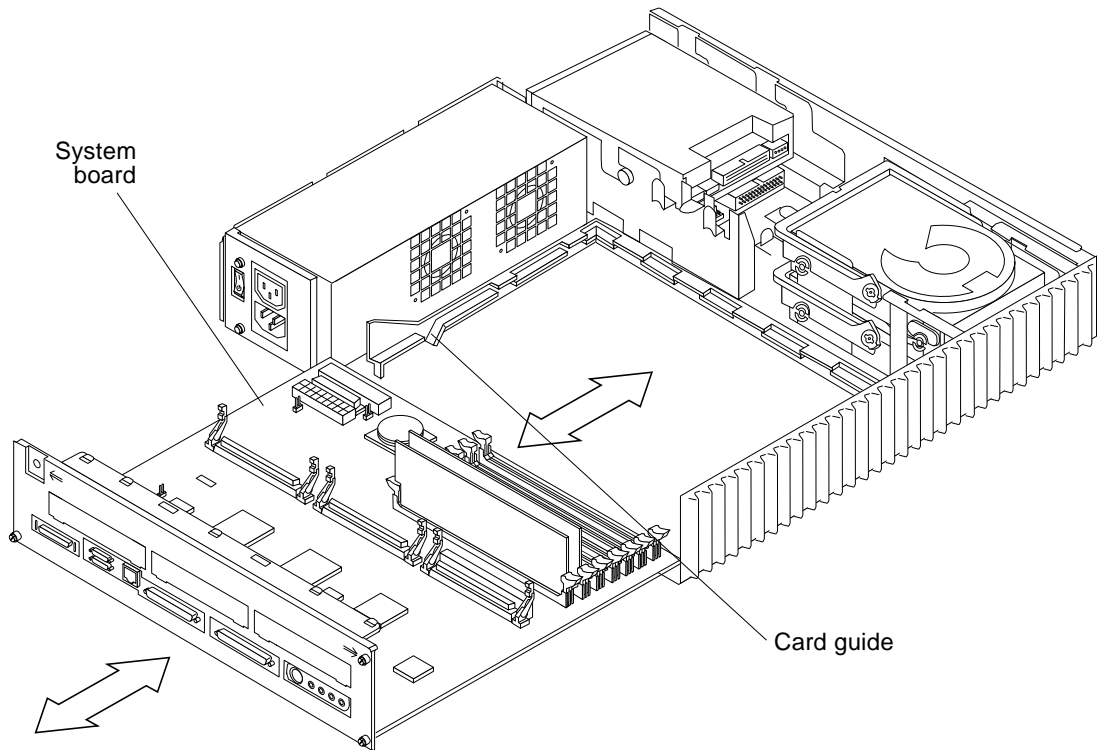

FIGURE 8-42 Removing the System Board
5. Pull the system board from the chassis back until the system board clears the plastic card guide (FIGURE 8-42).